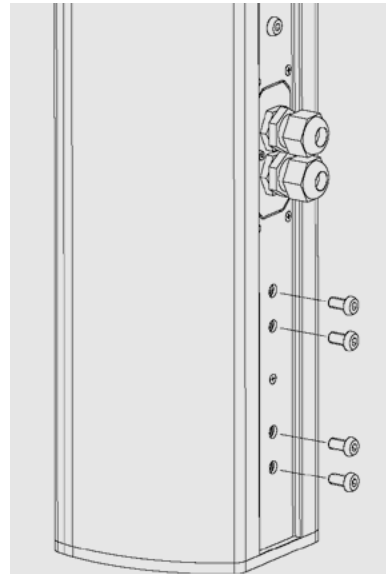

Figure 4
1. Remove the four to six M6 oval-head screws that are located underneath the connector panel. **SEE FIGURE 4.**